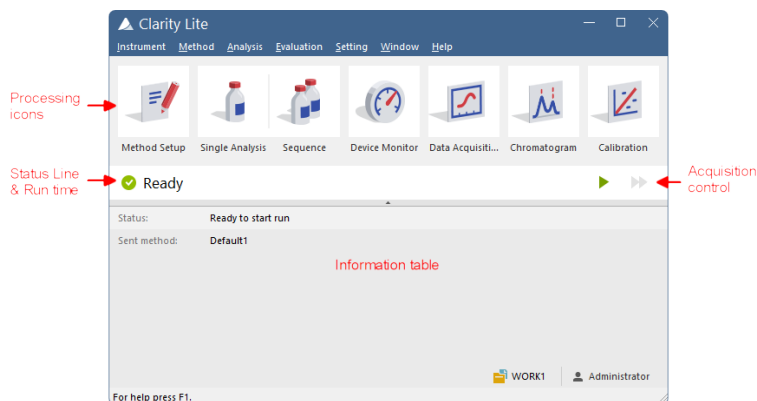

Fig. 7: Clarity Lite window
- **Fig. 7** on pg. 12. shows the most important icons in the *Clarity Lite* window. During the tour, we will review all windows opened by these icons.
- *Sample ID* and *Sample* fields ① are only informational.
- Values in *Amount*, *Dilution*, *ISTD Amount* and *Inj. Volume* fields ② are used for further calculations.
- Choosing the *Standard* from the *Sample Type* menu ③ and entering a value in the *Level* field would mark this sample as the calibration standard and save the chromatogram into the CALIB subdirectory.
- The measurement of the sample will be performed according to the actual modification of the template method opened in the *Clarity Lite* window. The *Edit Method...* button ④ serves to change the parameters of the actual template method. Click the button to open the *Method Setup* dialog and check the setting of the *Autostop* parameter (*Autostop* should be enabled) and *Run Time* (7.5 minutes). Return to the *Single Analysis* dialog by pressing the OK button.
- **Chromatogram File Name** ⑤ field is used for entering the file name of the resulting chromatograms. It is possible to use plain text together with variables adding the time, date, sample name or other parameters to create a unique chromatogram name. The resulting name can be seen just above the field ⑥ in parentheses.
- For the demonstration purposes, you may set the values in the fields as shown in **Fig. 8** on pg. 13. as typical analysis settings. Once this is performed, your Clarity Lite window will be the same as shown in **Fig. 7** on pg. 12.
- After the parameter setup, you can run the analysis by clicking the **Run** button ⑦. The **Single Analysis** dialog will close now. If you open it again, you will see three additional buttons (**Stop**, **Abort**, **Snapshot**) that will allow you to stop or abort the analysis or take snapshots (see the chapter "**Data Acquisition window**" on pg. 14.).
- In the **Clarity Lite** window look at the **Status line** (see **Fig. 7** on pg. 12.). The acquisition is now signaled by the **RUNNING** state and the actual run time shown there.
- To see the data acquisition in process and control it if necessary, click the **Data Acquisition**  icon (see **Fig. 7** on pg. 12.) to enter the **Data Acquisition** window.
- Depending on your station's configuration, one or more signals may be displayed. The number of detectors (signals) and their names can be seen in the upper right corner of the graph ①.